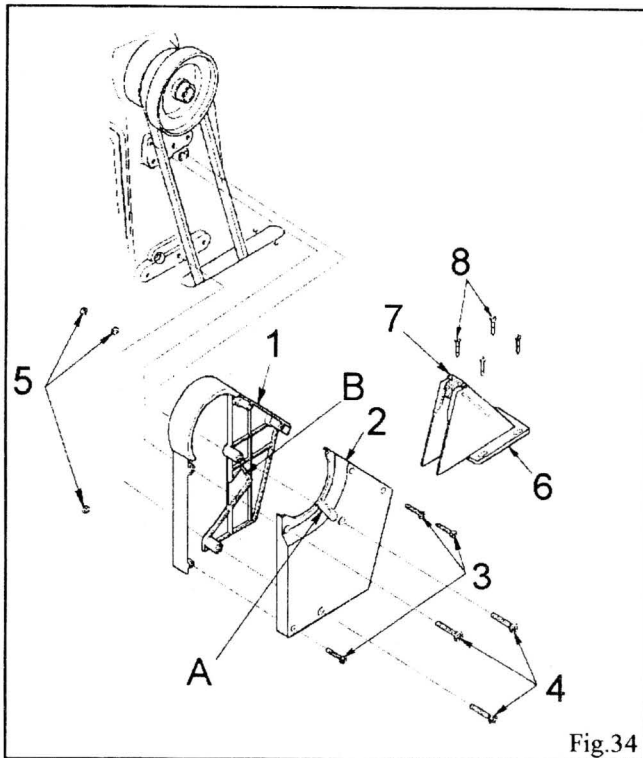

Fig.34
Fasten belt guards (1) and (2) to machine head with belt guard screws (3) and (4) and also with nuts (5) as shown in Fig. 34. Then fasten belt guard (6) to table with wood screws (8) making sure it will not interfere with belt guard (1) and (2), and so that the V-belt will rest against the belt guard slide (7) when machine is tipped back on its hinges.